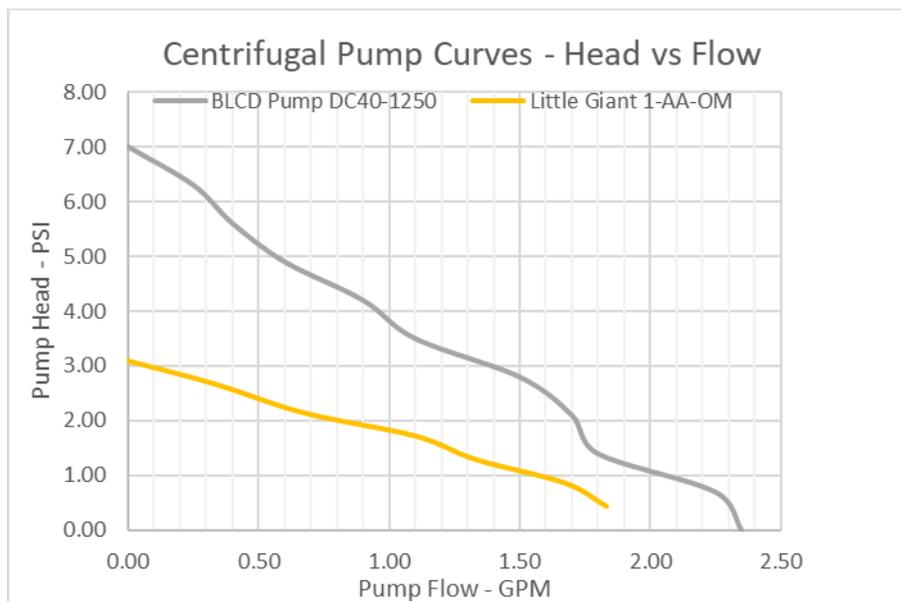

Figure 62 – Centrifugal Pump Curves
- XIV.17.1.c. The representative pump curves for these two centrifugal pumps are shown in **Figure 62**.